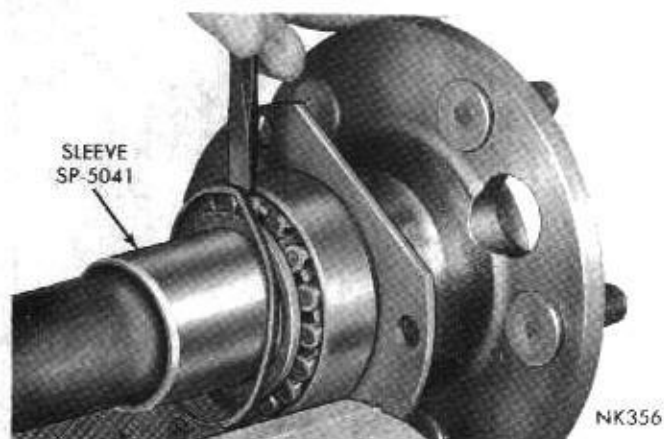

Fig. 7—Removing Roller Retainer
(2) Remove bearing roller retainer flange by cutting off lower edge with a chisel (Fig. 7).